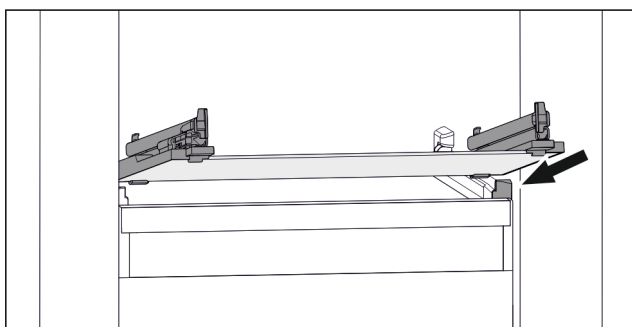

Fig. 109 Example illustration of glass shelf
- Position glass shelf at an angle behind the stoppers. (see Fig. 109)